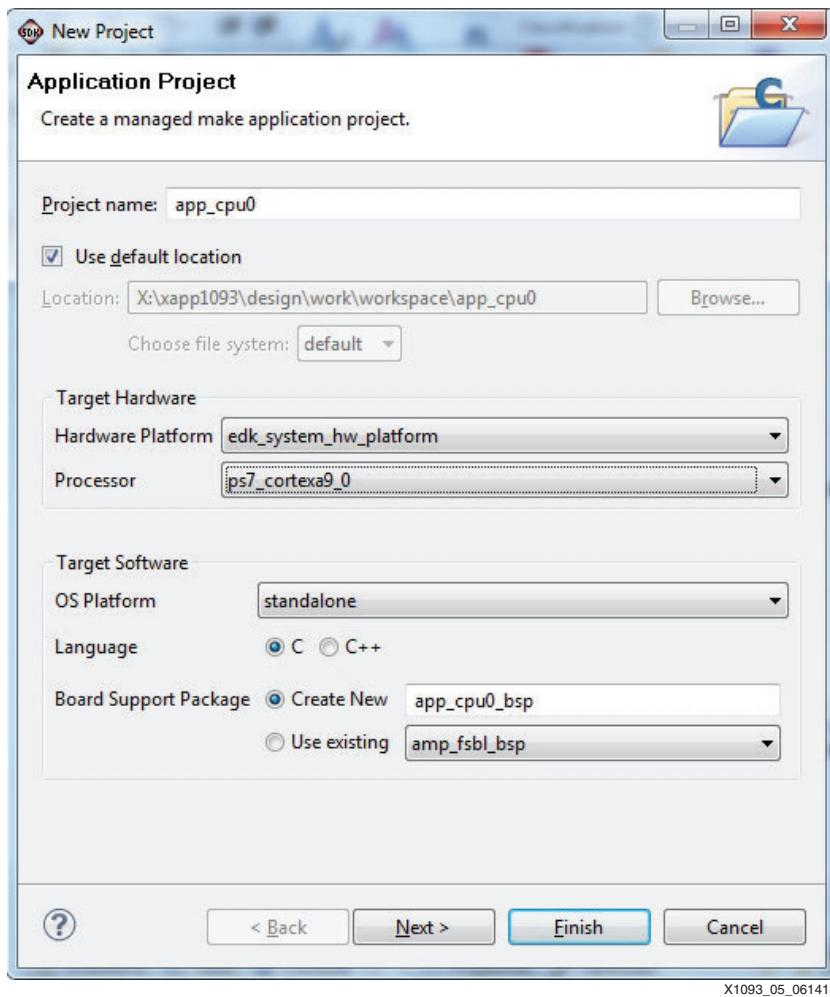

Figure 5: Create app_cpu0
3. Change the Project Name to **app_cpu0** and change Processor to **ps7_cortexa9_0**, as shown in Figure 5.